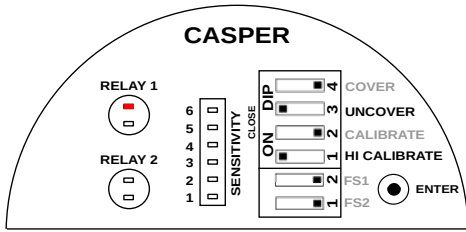

Figure 17: Uncover Delay Switch Position for Relay 2
- To set the Uncover Delay for Relay 2, set the UNCOVER and HI CALIB switch to CLOSE position as shown in Figure 17.